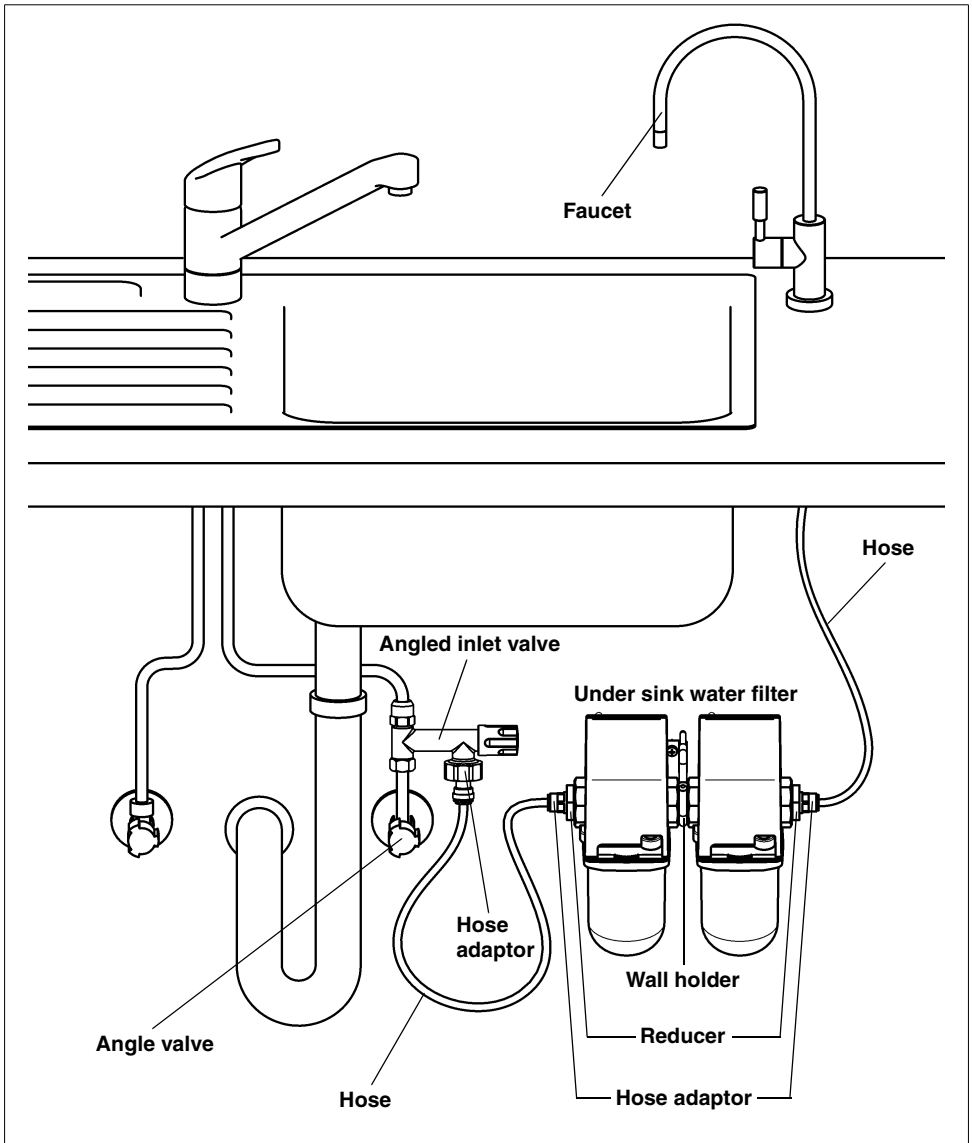

Fig. 8: Installation
- Close the water supply at the angle valve (see fig. 8).